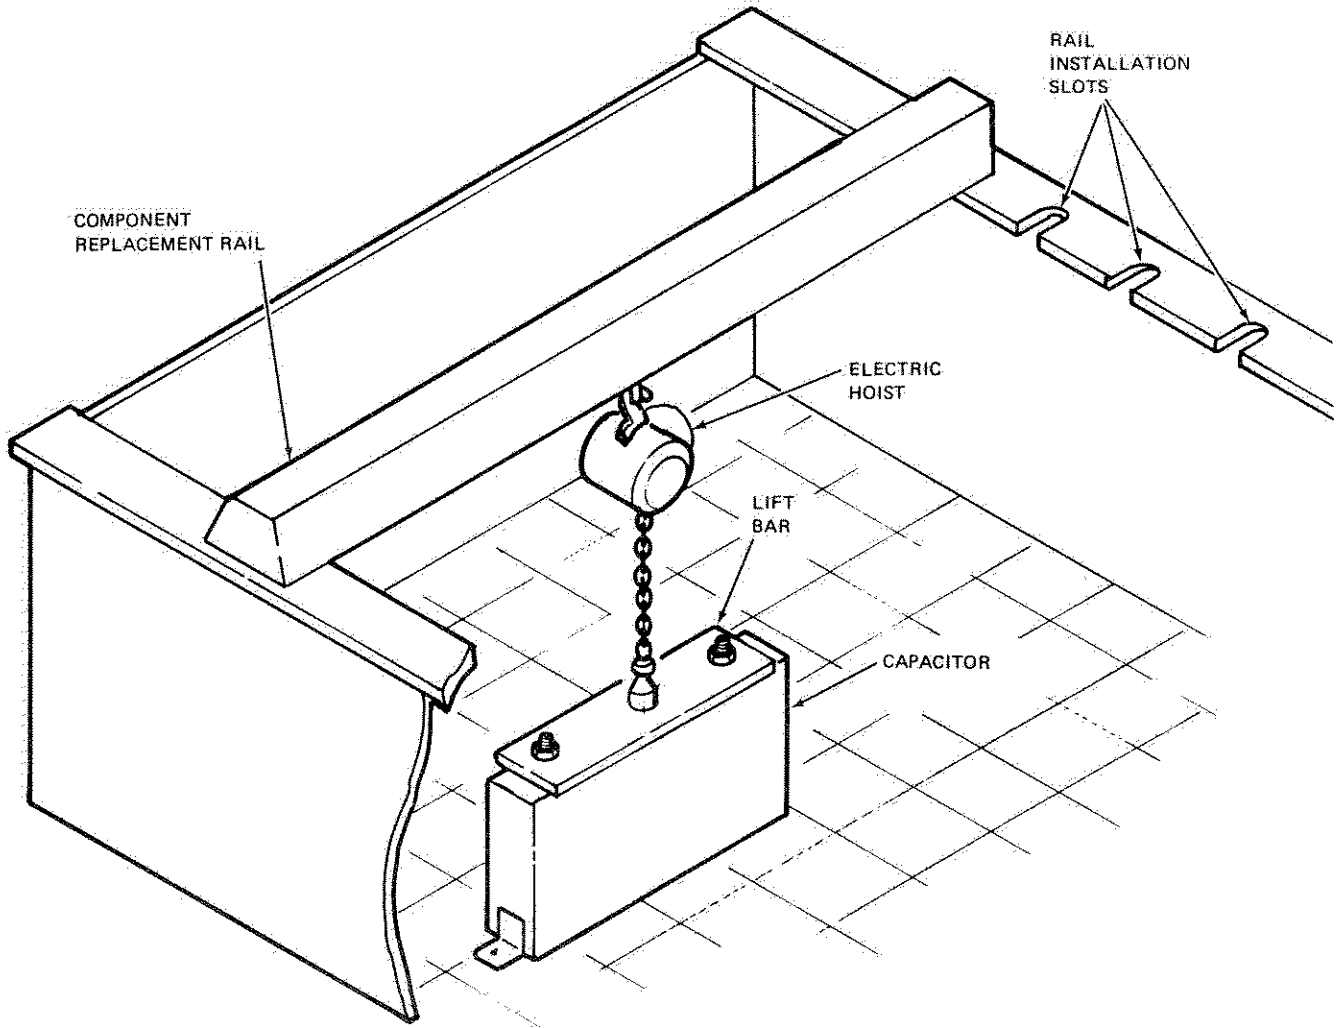

Figure 6-103. Component Replacement Rail Usage (Typical)
11. Position component replacement rail at installation slot (Figure 6-103). Install hoist roller assembly in rail and secure rail to cabinet.
- Position component replacement rail at installation slot (Figure 6-103). Install hoist roller assembly in rail and secure rail to cabinet.